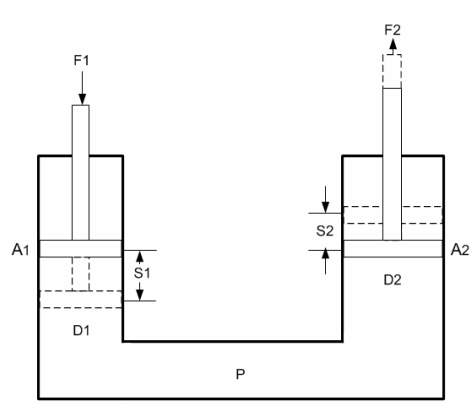

Fig.1
- (iii) In Bramah's press (Fig.1)  $F_1 = 40 \text{ kN}$ ,  $D_1 = 100 \text{ mm}$ ,  $S_1 = 50 \text{ mm}$ ,  $D_2 = 150 \text{ mm}$  find  $F_2$  and  $S_2$ . **02**